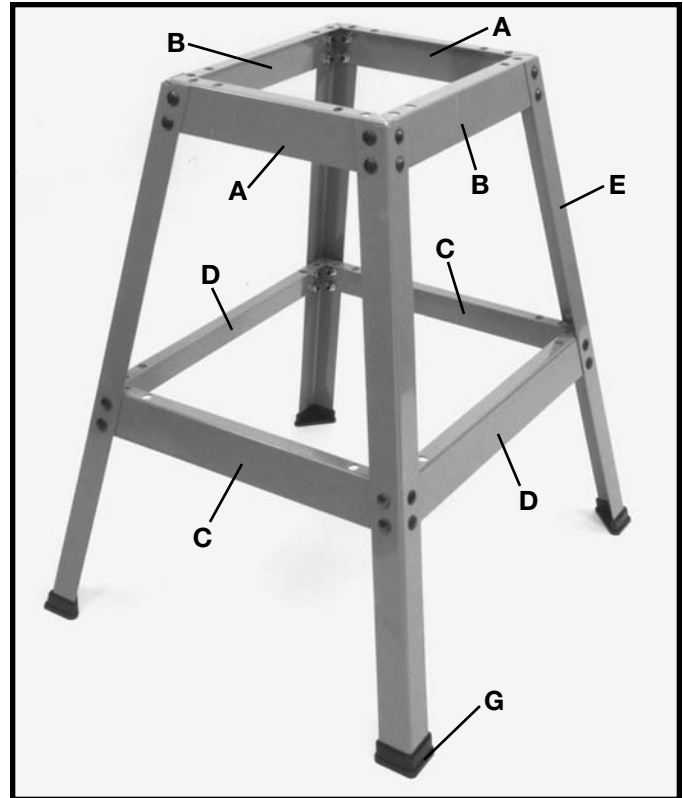

Fig. 6
If you purchased the accessory 32-331 steel stand for use with your boring machine, assemble the stand as shown in Fig. 6, using thirty-two 5/8" long carriage bolts, flat washers and hex nuts. Align the holes in the legs with the holes in the braces, insert a 5/16-18x5/8" carriage bolt through the hole in the leg and the hole in the brace, place a 5/16" flat washer onto the carriage bolt and thread a 5/16-18 hex nut onto the carriage bolt and hand tighten. Repeat this process for the thirty-one remaining holes. **NOTE:** All braces mount to the inside of the legs. **NOTE:** For ease in identifying and assembling the stand, the two top front and rear braces (A) are 13-1/2" long; the two top side braces (B) are 16-1/2" long; the two bottom front and rear braces (C) are 19-1/2" long; and the two bottom side braces (D) are 22-1/2" long. The four legs (E) are 31-1/2" long. **NOTE: Do not completely tighten the stand mounting hardware until the machine is assembled to the stand.** Assemble the four plastic feet (G) to the bottom of each leg (E) as shown.